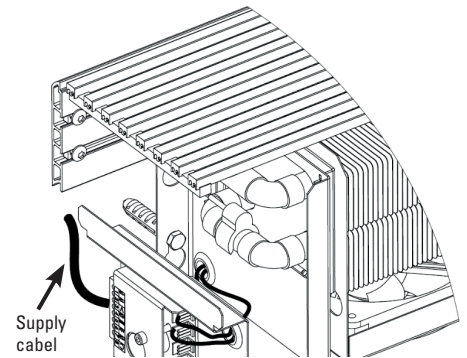

FIG. 6: Close-up view of the power line connection to the EB control unit (models with a fan)
- For models with a fan connect the power line to the EB control unit (pictured in detail on Fig. 6).